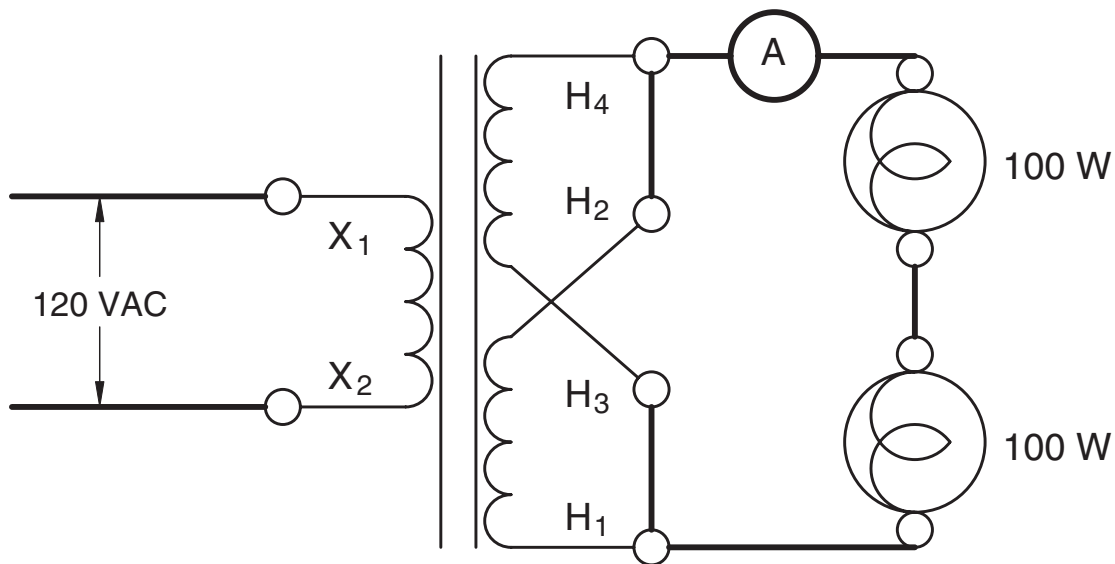

Figure 20-6 Connecting the load to the secondary.
25. Connect two 100 watt incandescent lamps in series. Connect these two lamps in parallel with the high-voltage winding. Connect an AC ammeter in series with one of the secondary leads, as shown in Figure 20-6.